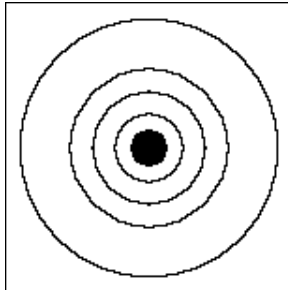
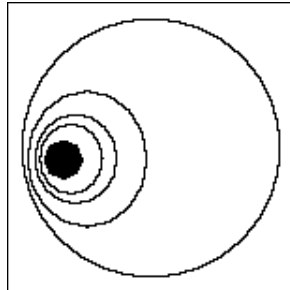

Fig. 17A.
Fig. 17B.
1. Bring the star image slowly out of focus until one or more rings are visible around the central disc. If the collimation was performed correctly, the central star disk and rings will be concentric circles, with a dark spot dead center within the out-of-focus star disk (this is the shadow of the secondary mirror), as shown in Figure 17A. (An improperly aligned telescope will reveal elongated circles (Fig. 17B), with an off-center dark shadow.)
2. If the out-of-focus star disk appears elongated (Fig. 17B), adjust the primary mirror tilt hex screws of the primary mirror cell until the circles are concentric on either side of focus.